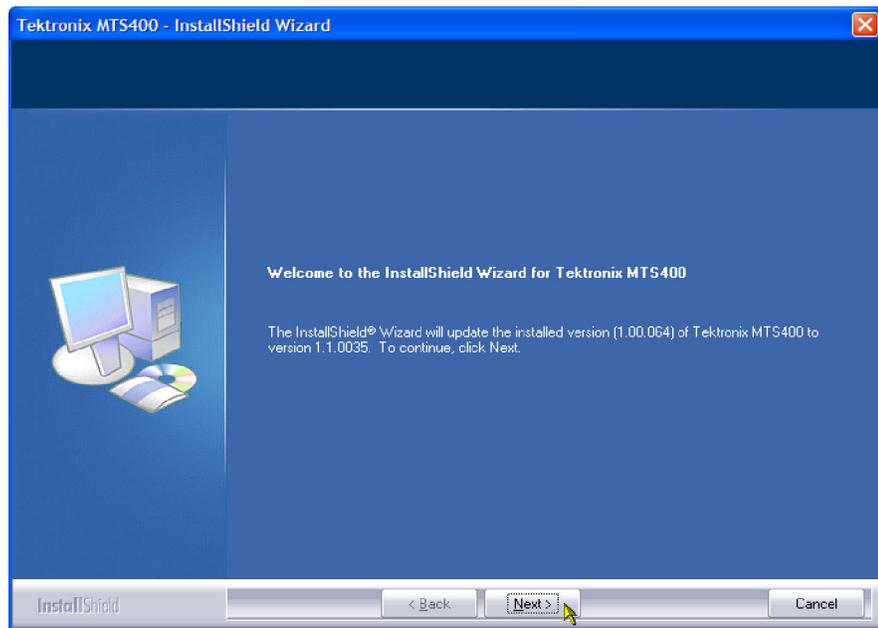

Figure 1: InstallShield Wizard welcome screen
3. Insert the *MTS400 Series Application Install CD-ROM* supplied with this kit into the CD-ROM drive of the instrument or PC to be upgraded. The CD-ROM will autostart and display the Welcome screen shown in Figure 1.
4. Click **Next** to initiate the upgrade process (see Figure 1).